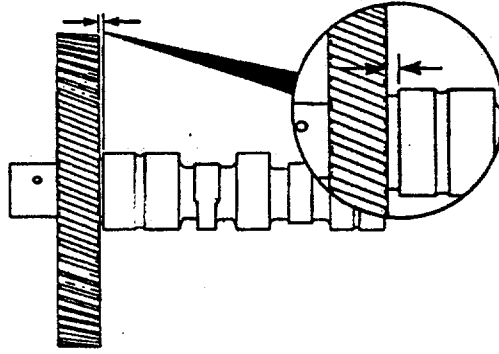

FIGURE 4-24. Measuring Gear and Shoulder Clearance.
- (2) Visually inspect the camshaft lobes for cracks, scratches, or other damage. Replace the camshaft if any damage is found.
- (3) Use a feeler gauge to measure the clearance between the gear and the shoulder of the camshaft. The clearance must not exceed 0.005 inch (0.13 mm). See Figure 4-24.
- (g) Use a feeler gauge to check the clearance between the camshaft gear and the shoulder. The clearance must not exceed 0.0050 inch (0.13 mm). See Figure 4-24.